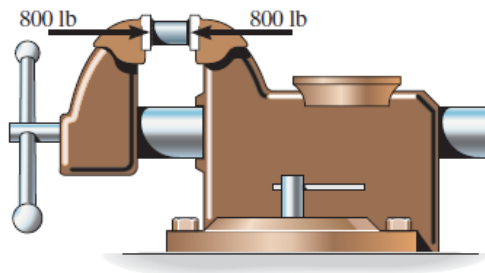

Fig. 7
7. The short cylindrical block of 2014-T6 aluminum, having an original diameter of 0.5 in. and a length of 1.5 in., is placed in the smooth jaws of a vise and squeezed until the axial load applied is 800 lb. Determine (a) the decrease in its length and (b) its new diameter. (Fig. 7) [decrease in length  $\delta = -0.577(10^{-3}) \text{ in.}$ ; new dia.  $d' = 0.50000673$  ]